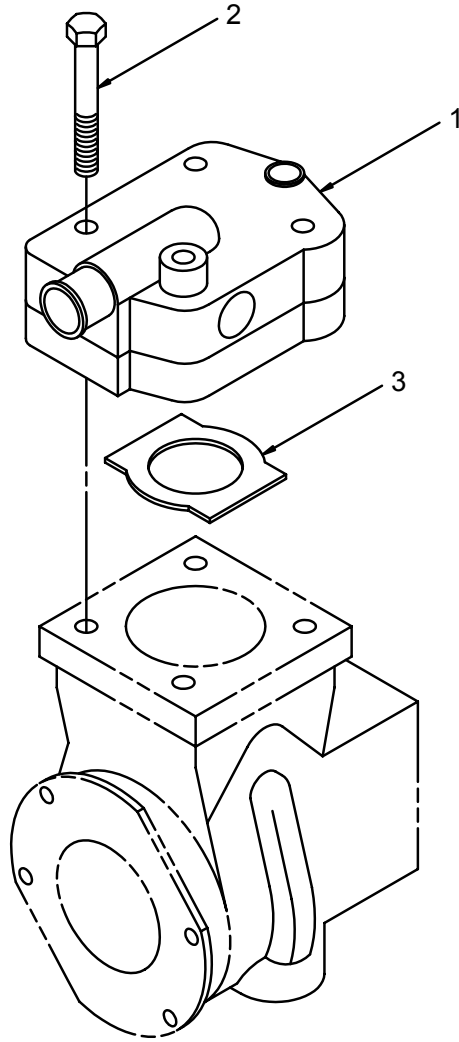
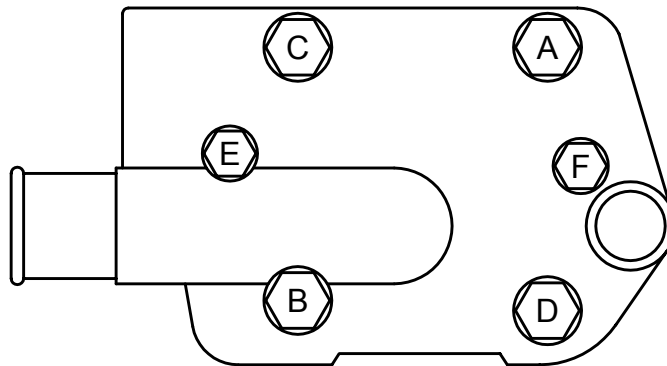

Figure I-1. Cylinder Head Installation
Figure I-2 Cylinder Head Bolt Tightening Sequence
I-3 MAINTENANCE**I-3.1 Head Assembly Replacement. (Refer to Figures I-1 and I-2.)****NOTE**
- a. Note the locations of all air and coolant fittings. Then remove and retain all air and coolant fittings installed in the air compressor head (1, Figure I-1).
- b. Remove and discard four head bolts (2) – “A, B, C, & D”, Figure I-2. Bolts “A”, “C”, and “D” are 3-1/8 in. (80 mm) long and bolt “B” is 4-1/8 in. (105 mm) long.
- c. Note the orientation of the head assembly (1, Figure I-1) with respect to the air compressor crankcase.
- d. Remove and discard the head assembly (1) and head gasket (3).
- a. Ensure that sliding valve is in place and that the head assembly (1, Figure I-1) is oriented properly as noted in step c in "Disassembly". Ensure guide pins are aligned properly.
- b. Place mounting gasket (3) and head assembly (1) on the compressor crankcase.
- c. Insert four new head bolts (2) and tighten finger tight. The longer head bolt (M8x105mm) should be installed in position "B", Figure I-2. Two cover bolts "E" and "F" have been loosely installed at the factory to hold the head assembly together.
Use a torque wrench and the following torque-turn sequencing method with Figure I-2 to tighten head bolts "A" thru "D" and head assembly bolts "E" and "F". Failure to follow the correct sequence could result in a field failure of the compressor.